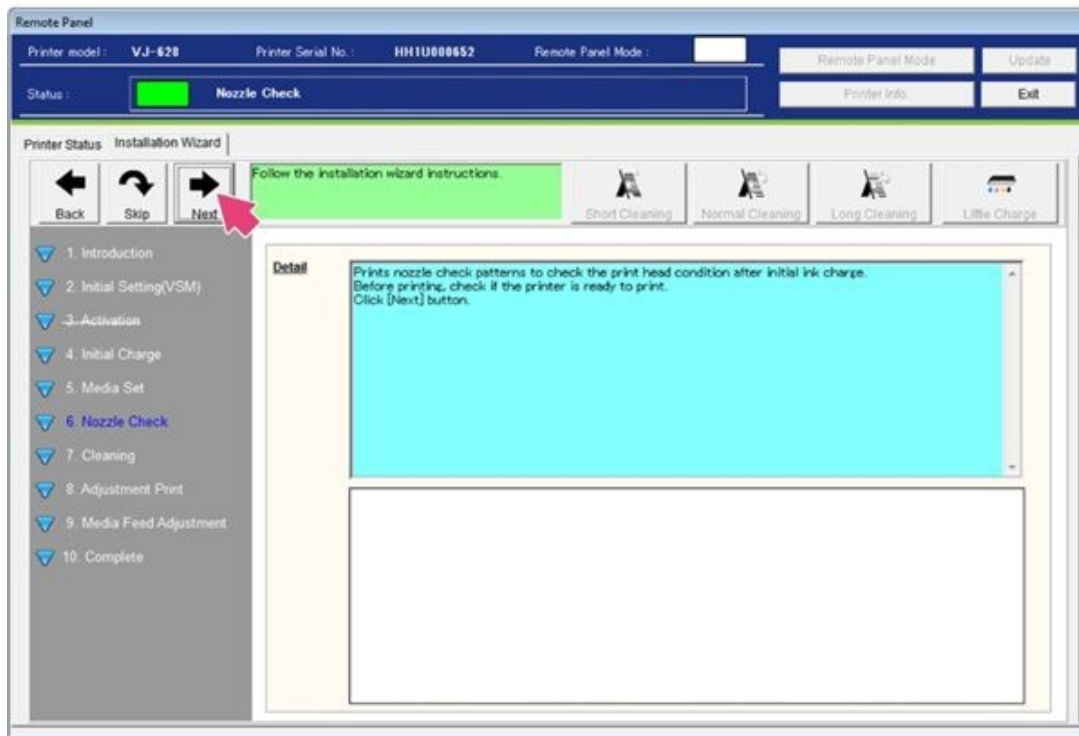

Figure 74
61. The wizard will now assist you with a nozzle check. Select **Next**. See Figure 74.